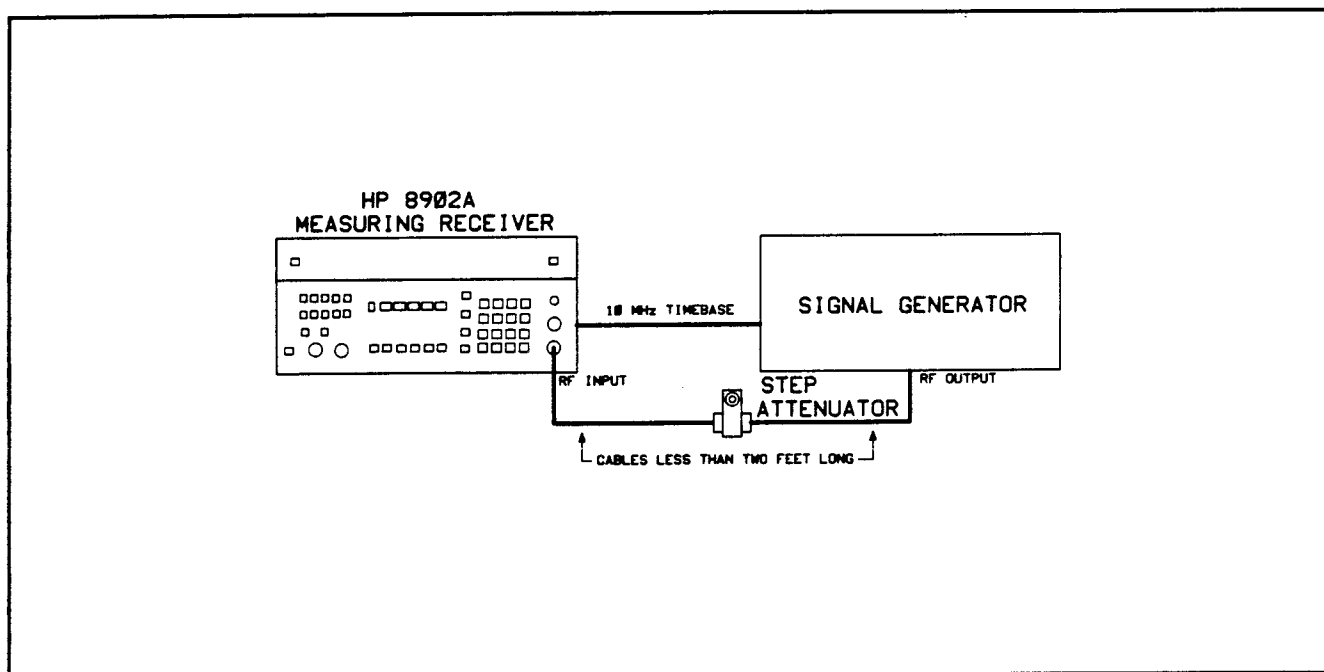

Figure 4-8. Tuned RF Level Performance Test Setup
1. Connect the equipment as shown in Figure 4-8.